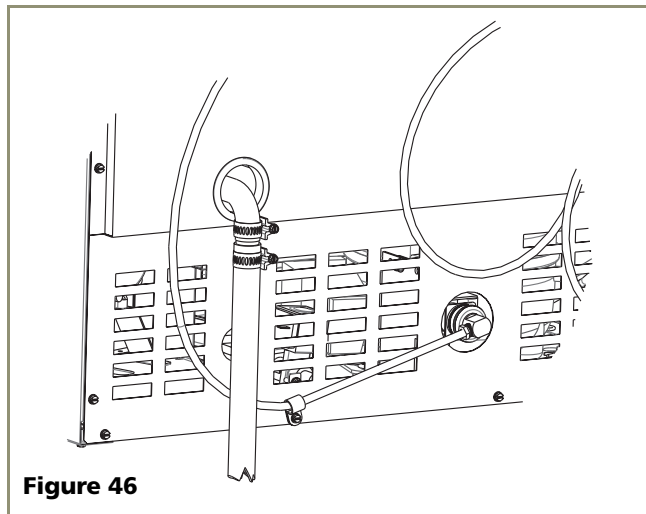

Figure 46
3. Attach the copper water line to the back of the unit using the supplied clamp and the back panel screw (see **Figure 46**, CLR2175 model shown). This will prevent rotation of the line when moving the unit.